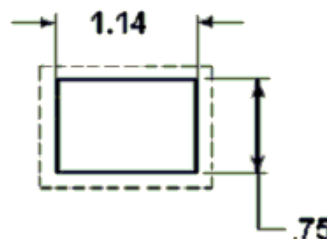

Figure B- 8: DTU Status Lamp Mounting Dimensions
- ❑ 020 Using the lamp mounting bracket as a template, mark and drill the three (3) #10 mounting holes on the processor mounting bracket.
- ❑ 050 If the lamp cannot be mounted on the DTU processor mounting bracket, find a suitable location and following Figure B- 8, mark and punch a 1.14 x 0.75 inch rectangular hole for mounting of the Status Lamp.